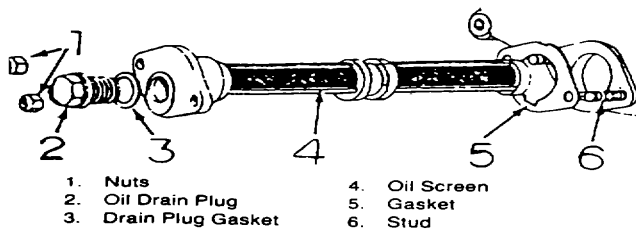

Figure 4-5. Diesel Engine Crankcase Oil Screen
- (1) Drain engine oil. Ref. Para 4-5.
- (2) Remove two nuts (1, Fig. 4-5). Remove oil screen and gasket (4 and 5, Fig. 4-5) from engine crankcase.
- (3) Clean oil screen (4, Fig. 4-5) with fresh diesel fuel.
- (4) Flush engine crankcase with fresh diesel fuel. Then flush engine crankcase with fresh engine lubricating oil.
- (5) Inspect oil screen and gasket (4 and 5, Fig. 4-5) for damage. Replace damaged parts.
- (6) Install oil screen and gasket (4 and 5, Fig. 4-5) into engine crankcase. Secure with two nuts (1, Fig. 4-5).
- (7) Refill engine crankcase with lubricating oil. Ref. Para 4-5.